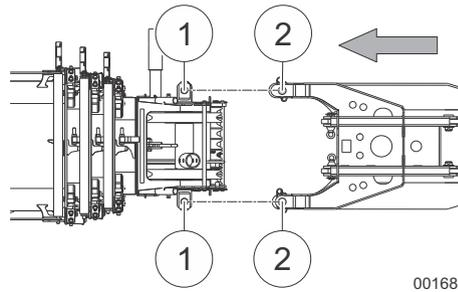

Fig. 111 Lifting the fly boom to the telescopic boom
- 12 Align the fly boom to the telescopic boom head. The bores of the fly boom (2) in Fig. 111 and the telescopic boom (1) in Fig. 111 must be aligned.